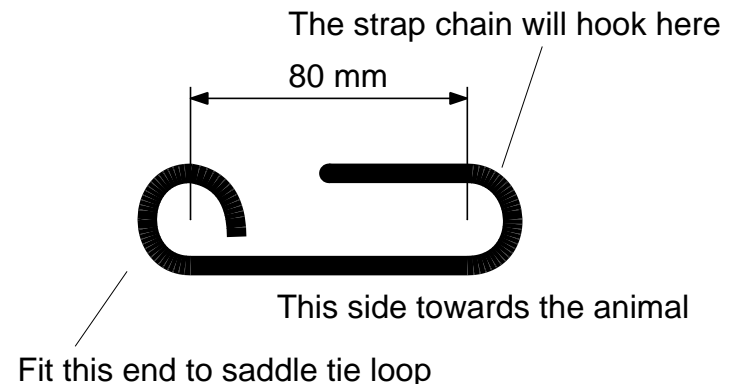

Figure 12: chain hooks for straps.
- 9) Make the strap chain hooks from more 6 mm re-bar as shown in Figure 12 and fit the fixed ends to the saddle tie loops.